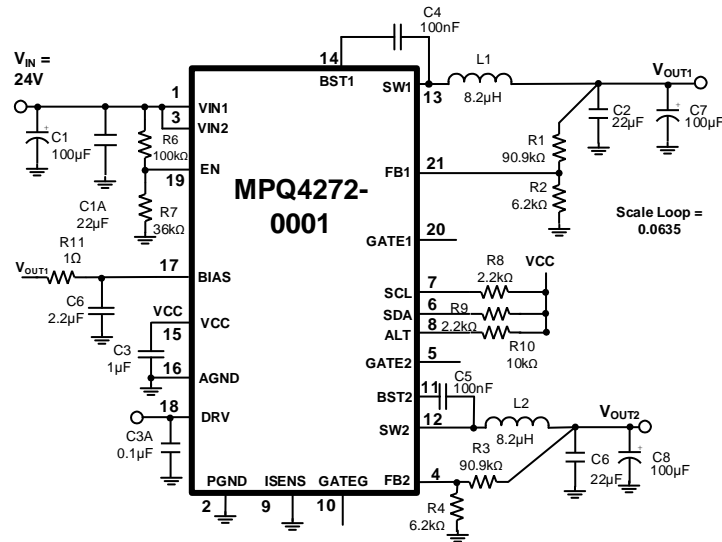

Figure 16: $V_{IN} = 24V$, $V_{OUT1} = V_{OUT2} = 3.3V$ to $21V$ (Default Off)
- 10) The recommended layout is based on the typical application circuit (see Figure 16 on page 38).